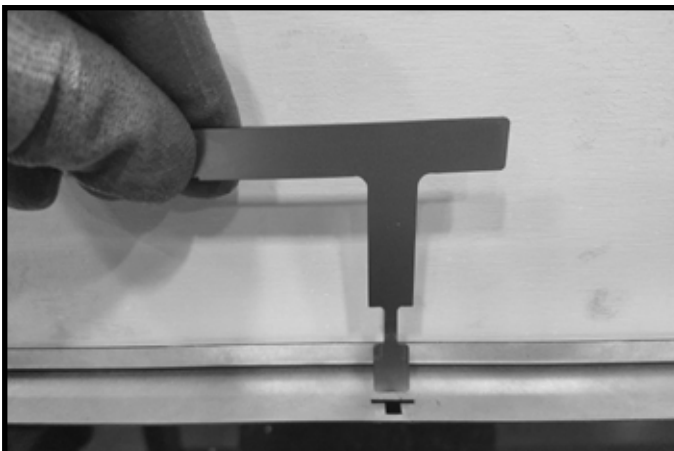

Figure 5.6 Pull Tool Inserted Into Slot
6. Insert pull tool into slots on left and right sides of appliance. See Figure 5.6.